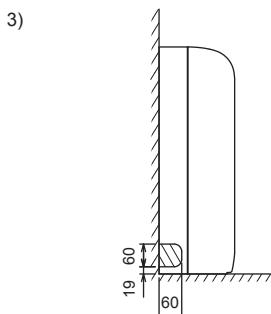

Fig. 3-9
- 3) For left piping (Fig. 3-9)**